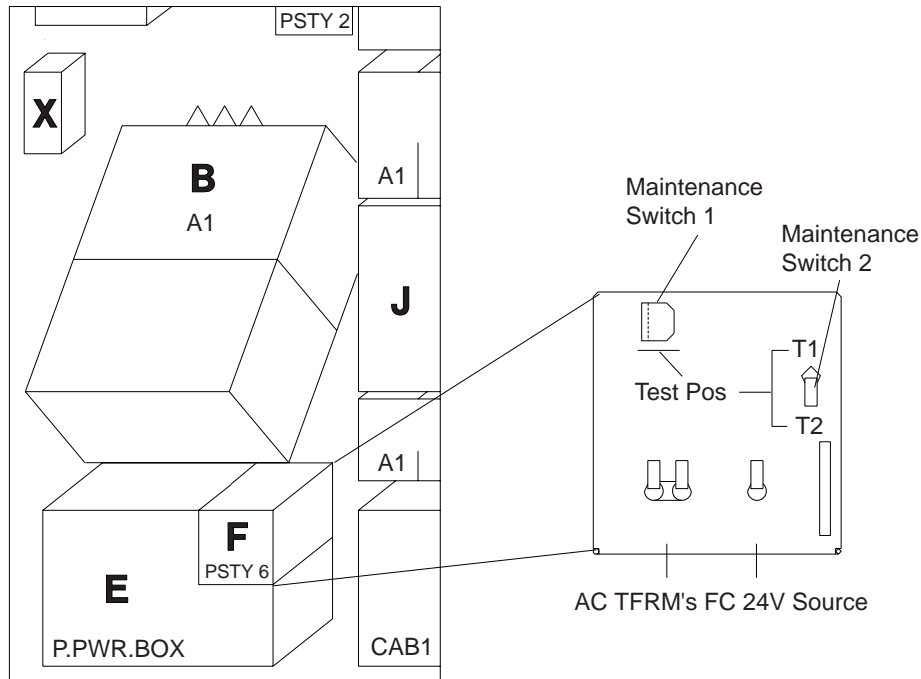

Figure 4-38. PS Type 6 SW1 Actuator
- f. Locate the **Maintenance SW1** on PS type 6. See Figure 4-38 on page 4-57. Lift the lever up and pull it outwards to the **Test** position. Check that the LED is ON.